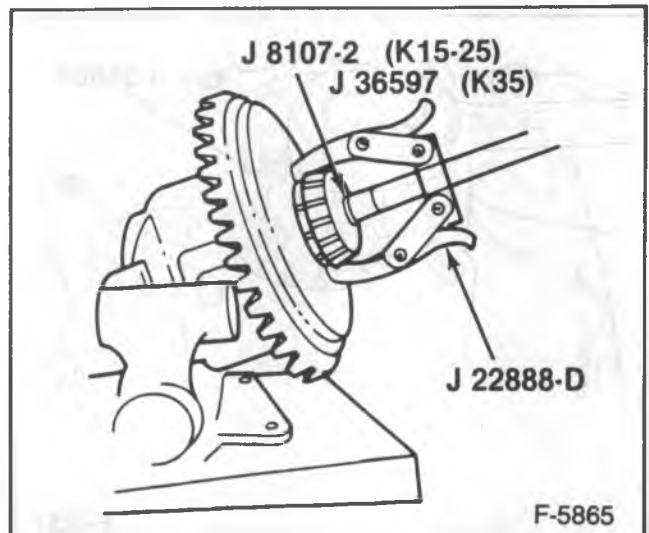
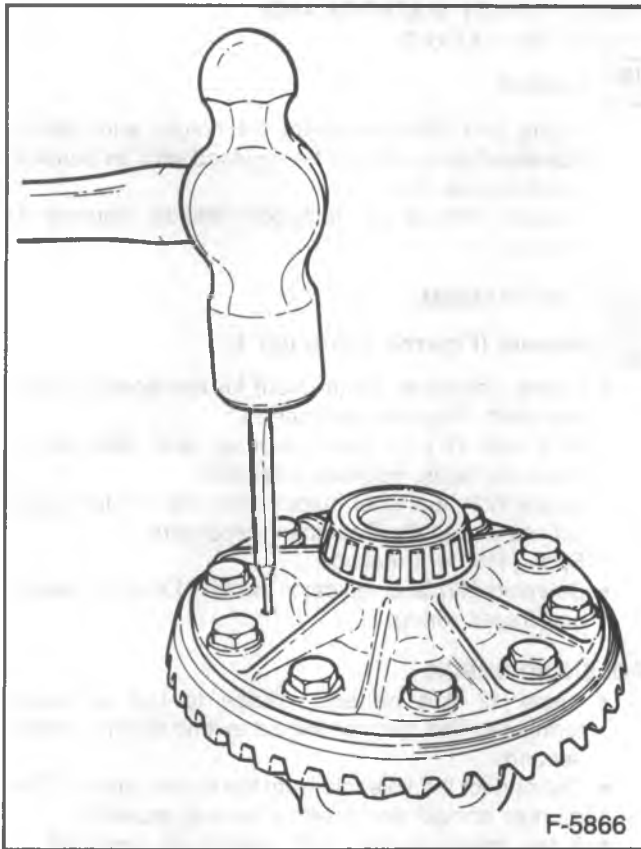
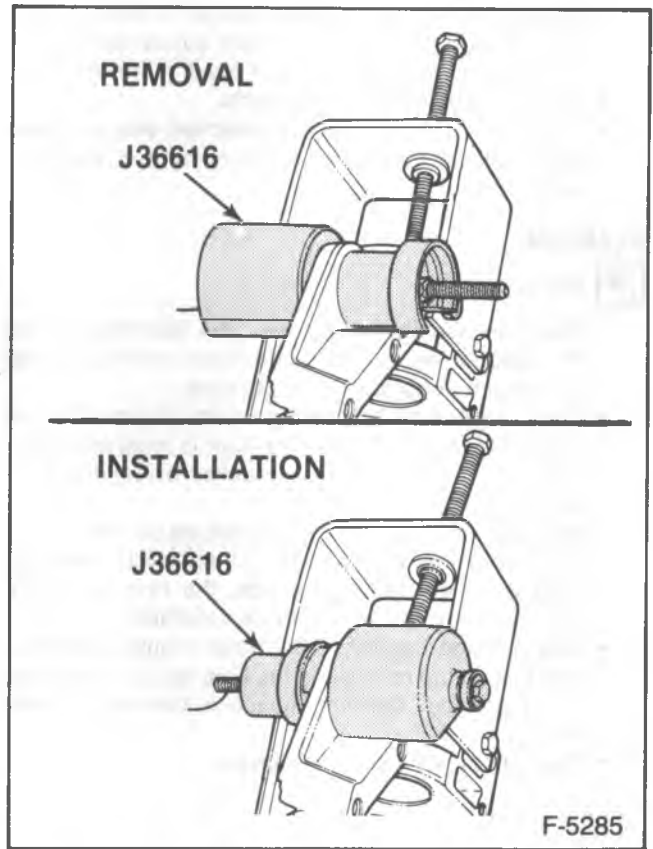

Figure 17—Removing the Side Bearings
Figure 18—Removing the Pin (K15-25 Models)
Figure 19—Replacing the Carrier Bushings
33. Side bearings (33). Use J 22888-D and J 8107-2 (K15-25 models) or J 36597 (K35 models) (figure 17).
34. Ring gear bolts (34).
35. Ring gear (37) from the differential case.
36. Roll pin (36) (K15-25 models). Drive out with a drift and hammer (figure 18).
37. Bolt (24) (K35 models).
38. Shaft (52).
39. Differential pinion gears (56) and side gears (54).
- Roll the pinion gears out of the case with the pinion thrust washers (55).
- Remove the side gears and the side gear thrust washers (53). Mark the gears and the differential case as left and right.
- Remove spacer (57) (K35 models only).
40. Vent plug (60). Use a 6-point deep socket.
41. Bushings (48). Use J 36616 (figure 19).